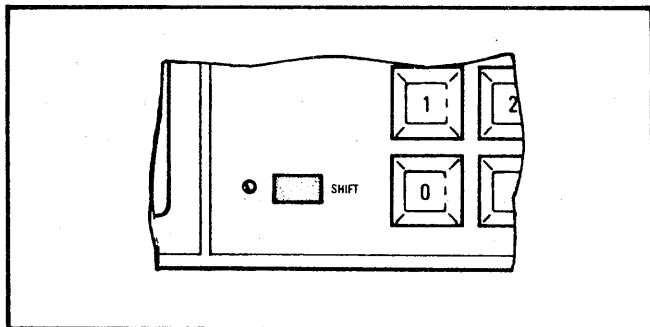

Figure 3-9. SHIFT Pushbutton
- f. SHIFT Pushbutton (Figure 3-9). Provides additional functions, designated by blue lettering, for the pushbuttons described below. When SHIFT is pressed, the numeric displays and LED indicators will go out, except for the currently active SHIFT functions. Pressing SHIFT again returns the displays and indicators to their unshifted (normal) indications – no parameters are changed.